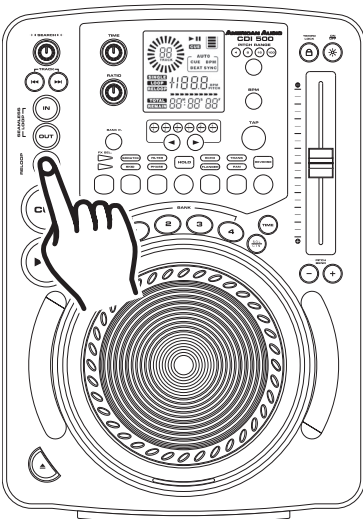

Figure 22
Please note: Only the ending point of the loop may be edited. You may make your loop shorter or longer. Before you can edit your seamless loop you obviously must first create a seamless loop to edit. If you haven't created a SEAMLESS LOOP, follow the instructions in step 10 to create a loop. If a SEAMLESS LOOP has already been created, press the *RELOOP BUTTON* (22) to activate your SEAMLESS LOOP (Figure 22) if it is not already activated. To edit your seamless loop's ending point: